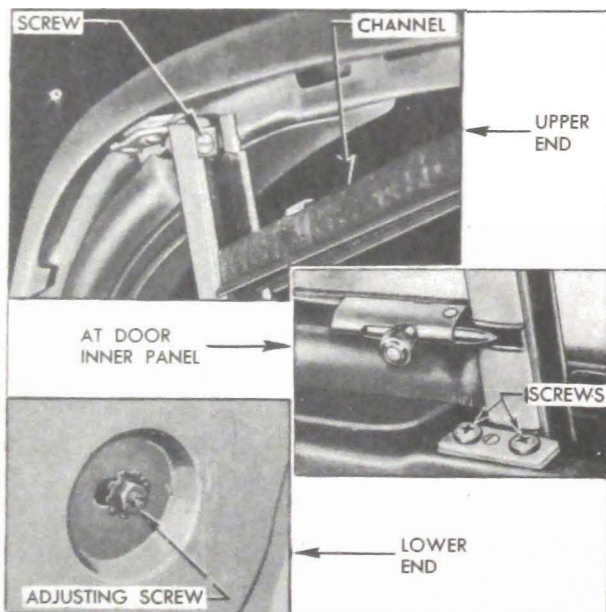

Figure 13-34—Window Division Channel Attachments
2. Remove the retaining screw holding upper end of division channel to door header and remove the two self-tapping screws attaching division channel to the top edge of door inner panel. See figure 13-34.